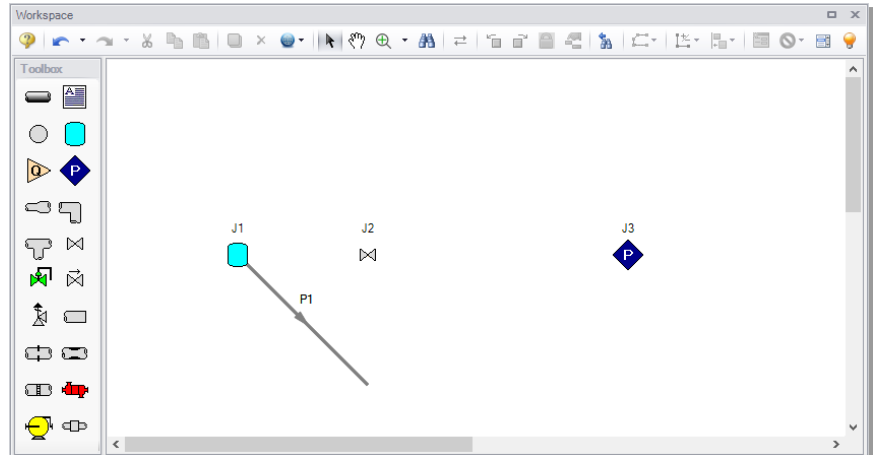
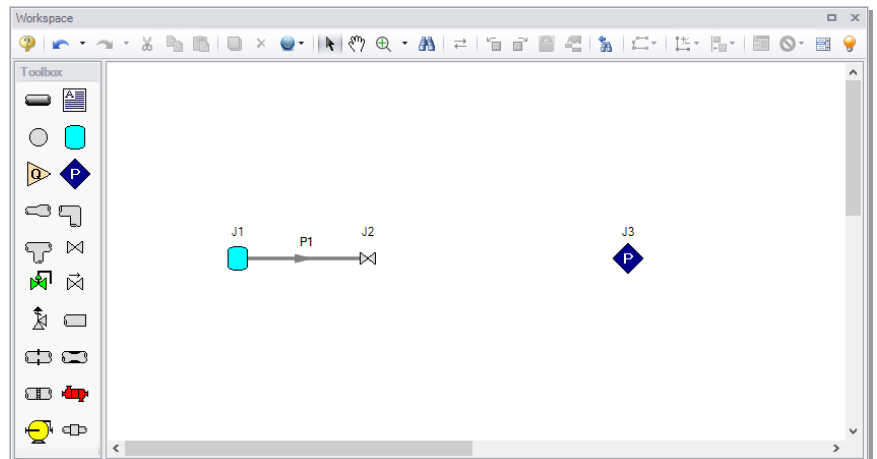

Figure 2.5d First pipe partially connected
Figure 2.5e First pipe fully connected
- **To place the pipe between J1 and J2**, use the mouse to grab the pipe in the center and drag it so that the left endpoint falls within the J1 Tank icon, then drop it there (see Figure 2.5d). Next, grab the right endpoint of the pipe and stretch the pipe, dragging it until the endpoint terminates within the J2 Valve icon (see Figure 2.5e).